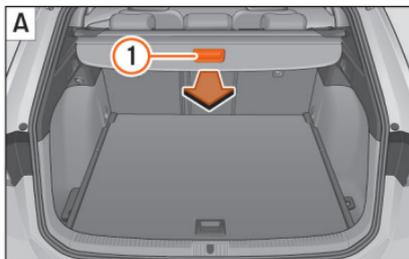

Fig. 125 In the luggage compartment: unrolling and rolling up the shelf.
• Pull evenly on the rear shelf using its handle »» Fig. 125 ① [A] in a backwards direction until it audibly clicks into place.
• Press on the handle of the rear shelf in the direction of the arrow to release it »» Fig. 125 [B].